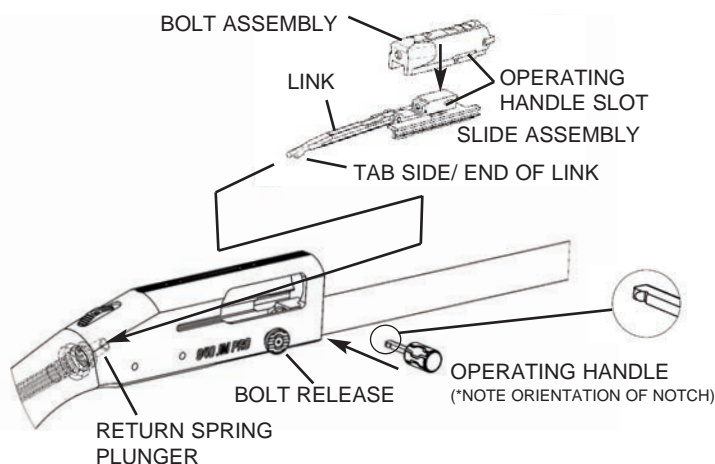

Figure 16
2. Install the bolt and slide assembly into the front of the receiver through the opening for the barrel, link first (Figure 16). The slide may need to be "wiggled" side to side in order to engage the tracks in the receiver. The bolt will stop when it is nearly flush with the front of the receiver. While aligning the end of the link with the return spring plunger, press the bolt release. This will allow the action to seat in the receiver. The end of the link must be in the return spring plunger! Push the bolt rearward into the receiver just far enough for the operating handle slot to become fully visible (Figure 3A).